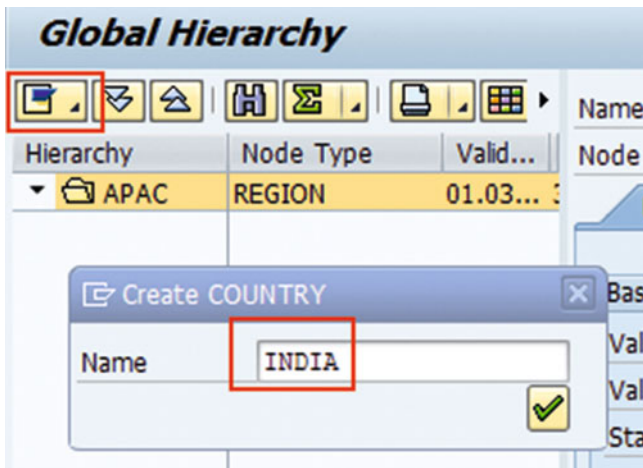

Figure 3-30. Configure global hierarchy nodes: Country
5. Once the region is added, select the region and click the Node menu button to create the next node, country. Enter the country name and click Enter (refer to Figure 3-30).